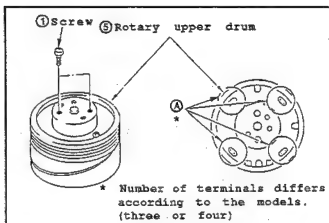
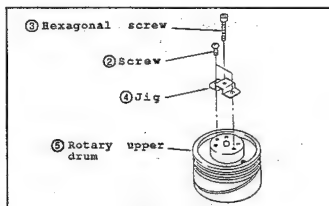

Fig.II-27
Fig.II-28
- (1) Unsolder three solderings ⑧. Then, confirm that the terminals which come out from the hole of C.B.A. can be moved freely. (Fig.II-27)
- (2) Remove the two setscrews ①.
- (3) Secure the jig ④ to the drum with the two setscrews ②. (Setscrews supplied with jig ④ as a set.) Then, screw in the hexagonal bolt ③ into the hole of jig ④ to dismount the rotary upper drum ⑤. (Fig.II-28)
- (3) Pull out the jig ⑦, and then push the rotary upper drum ⑤ into the lower one manually and gently. If it cannot be set completely to the bottom, Tighten the two setscrews ① alternately and temporarily. (Fig.II-27)
- (4) Insert the jig ⑦ into the positioning holes ⑥ again. If it cannot be inserted smoothly, loosen the two setscrews ①. Then perform the step (3) of disassembling procedure.
- (5) Tighten the two setscrews ① thoroughly.
- (6) Solder the terminals ③. (Fig.II-27)